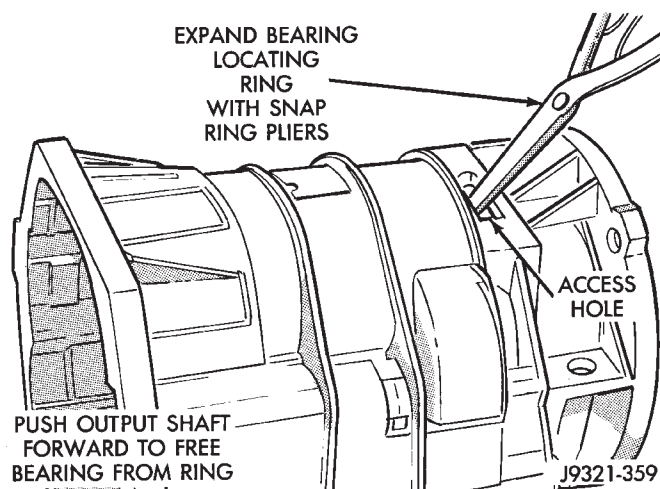

Fig. 304 Seating Locating Ring In Rear Bearing
(9) Expand front bearing locating ring with snap ring pliers (Fig. 304). Then slide case downward until locating ring locks in bearing groove and release snap ring.